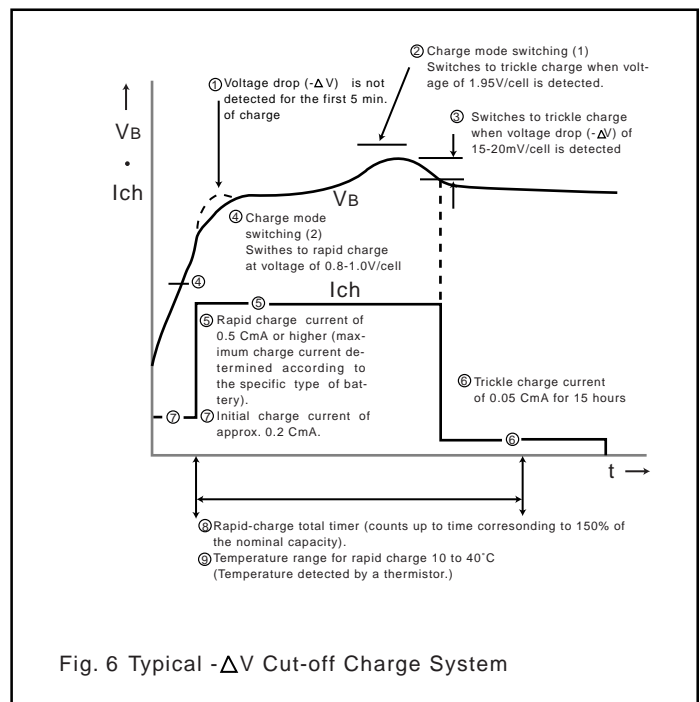

Fig. 6 Typical  $-\Delta V$  Cut-off Charge System
- The charge current should be 0.5 CmA ~ 1 CmA. If charged at less than 0.5 CmA, the voltage drop after the peak voltage is reached might be too small for the  $-\Delta V$  cut-off to function, resulting in overcharge. The maximum charge current will vary according to the specific type of battery, so it is important to select the appropriate charge current. (See (5) in Fig. 6)
False  $-\Delta V$  phenomenon: When Ni-Cd batteries are left unused for a long period of time or excessively discharged, the charge voltage (false  $-\Delta V$ ) may swing at the beginning of charge. (See (1) in Fig 6)
- Be sure that the  $-\Delta V$  value is correct. If it is not, faulty operation (overcharge or insufficient charge) of the charger might occur. (See (1) in Fig. 6)
This predetermined level varies according to the type of battery, so consult Panasonic for the specific level. The trickle charge current should be 0.05 CmA. (See (2) and (6) in Fig. 6)
predetermined level, set the charge current to approximately 0.2 CmA. (See (5) and (7) in Fig. 6)
- Provide a total timer in the charge circuit as a double-safety control. (See (8) in Fig. 6)
- Especially for devices where charge is frequently performed at high temperatures or low temperatures (for example, chargers designed to be used in an automobile), in order to increase charge reliability, the charger is provided with a function that detects the temperature of the batteries and switches to trickle charge if the temperature is not within the specified range for rapid charge. Therefore, a thermistor or other temperature-detecting element must be provided inside the battery pack, and the battery pack will have a 3-terminal construction. (See (9) in Fig. 6 and Fig. 7)